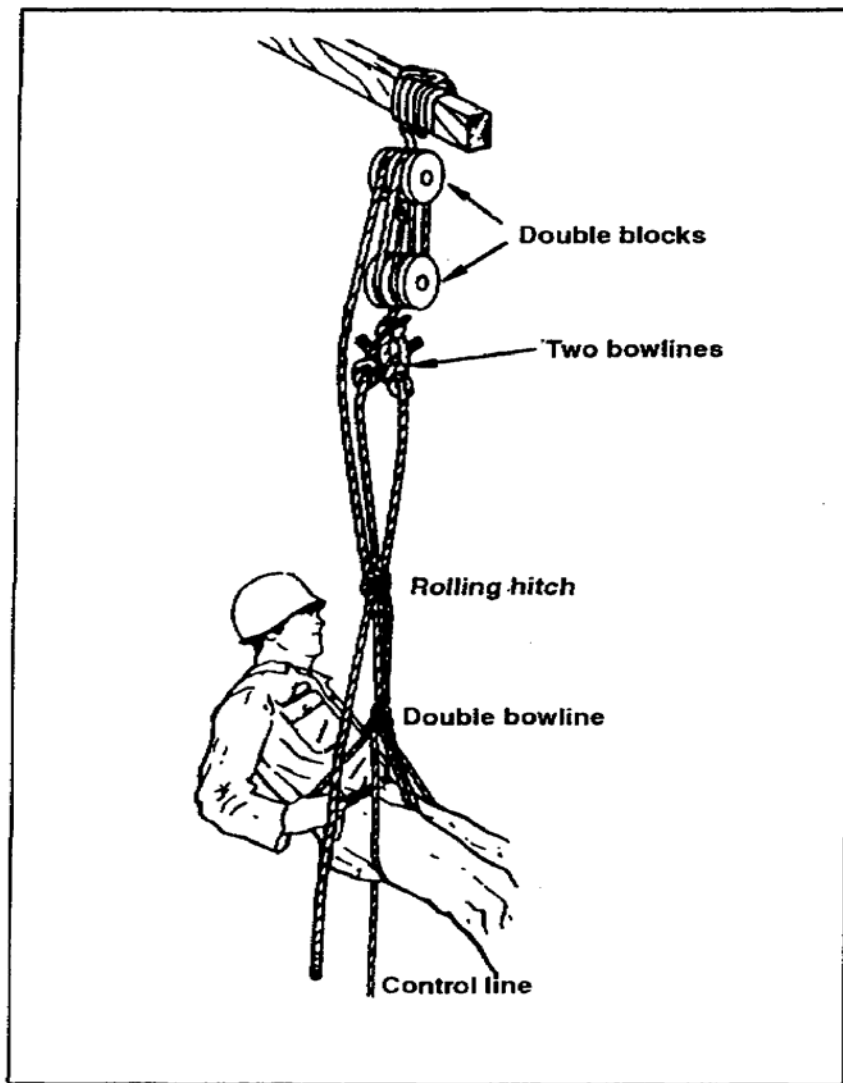

Figure 4-21. Boatswain's chair with suspending tackle
(2) The boatswain's chair with suspending tackle (Figure 4-21) is supported by securing block and tackle to the building's roof, ceiling joists, or rafters. Before using the chair, ensure that it is attached securely. You can either raise or lower yourself or be assisted by a person on the ground. When working alone, the fall line (control) is attached to the suspending tackle (two double blocks) with a rolling hitch. The fall line allows you to lower yourself. When receiving assistance from the ground, the fall line should be tied to a tree or a building member that will hold your weight.